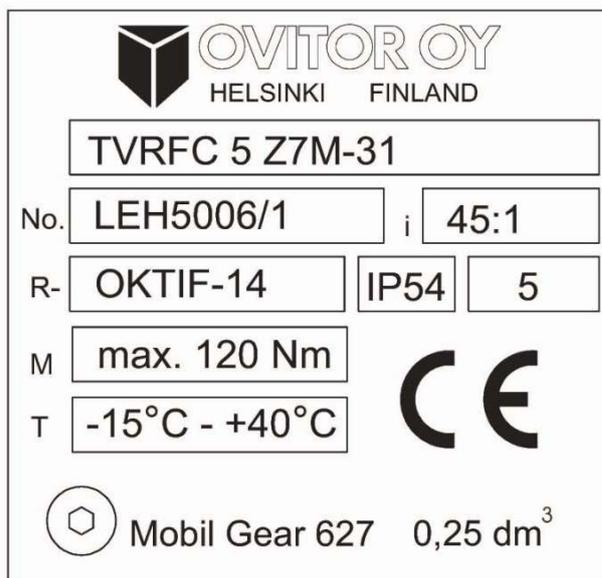
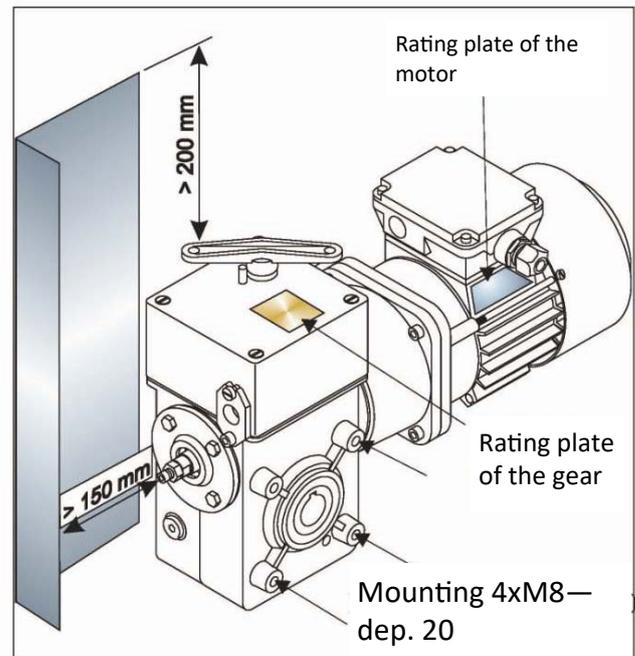

Fig. 1.
Fig. 2.
Every complete drive unit has two (2) rating plates, one on the gear box and the other one on the electric motor (fig. 2). The plate on the gear box shows (fig. 1), in addition to the technical information, also the production serial number (e.g. MLN9878/1), on the basis of which all original production information can be traced later.
When mounting the drive unit, note the access required for adjustment of the limit switches, as shown in the adjacent fig. 2. The dimensions of the drive unit are shown in type specific drawings 62XX/7XXX (e.g. 6225/7076).